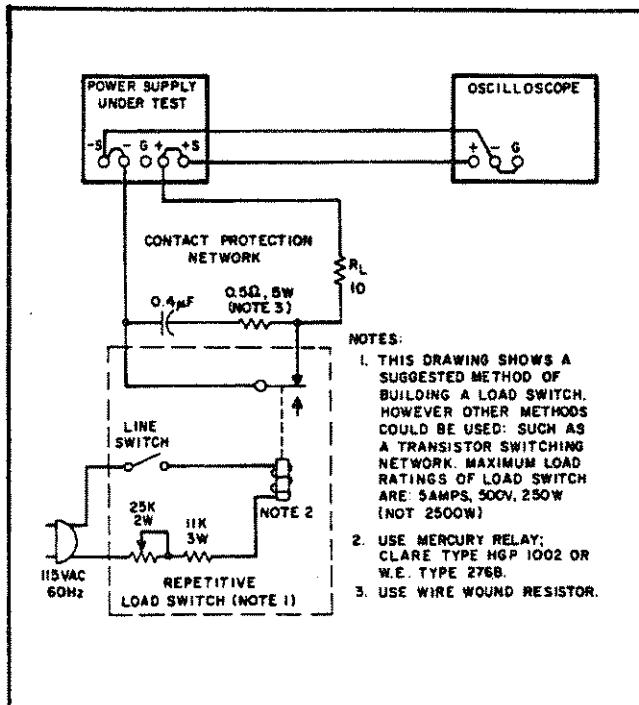

Figure 5-4. Transient Recovery Time Test Setup
**5-31** A mercury-wetted relay, as connected in the load switching circuit of Figure 5-4 should be used for loading and unloading the supply. When this load switch is connected to a 60Hz ac input, the mercury-wetted relay will open and close 60 times per second. Adjustment of the 25K control permits adjustment of the duty cycle of the load current switching and reduction in jitter of the oscilloscope display.
- Connect test setup shown in Figure 5-4. Set MODE switch to POWER SUPPLY and RANGE switch to X4.